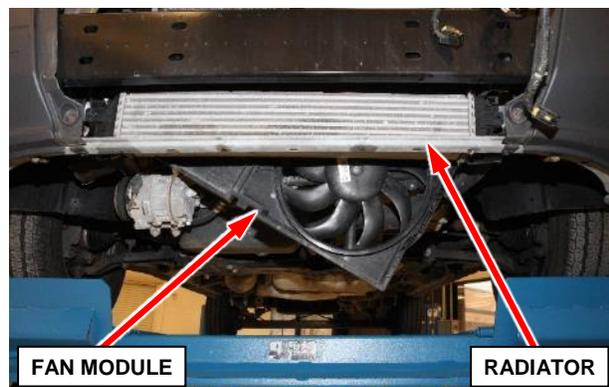

Figure 22 – Cooling Fan Module
20. Remove the cooling fan module from the bottom of the vehicle (Figure 22).
23. Install the **NEW** cooling fan module to the vehicle from the bottom (Figure 22).